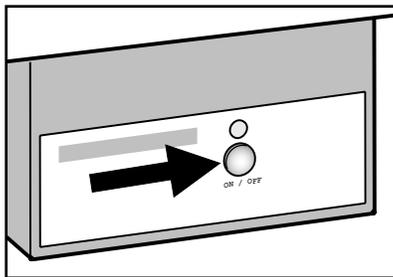

Figure 17
- Press the “ON/OFF” button so the control lamp comes on (**Figure 17**).